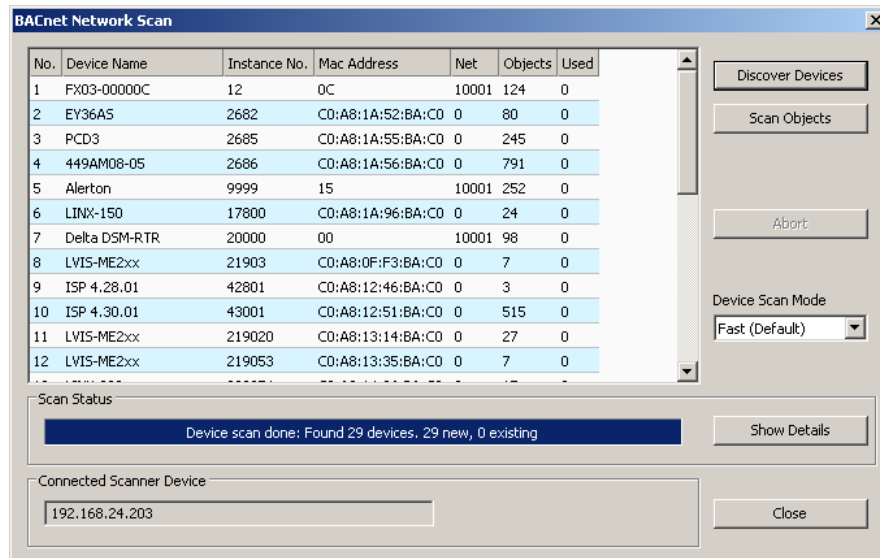

Figure 120: BACnet network scan dialog
- Right-click on that folder and select **Scan BACnet Network...**. This opens the BACnet Network Scan dialog as shown in Figure 120.